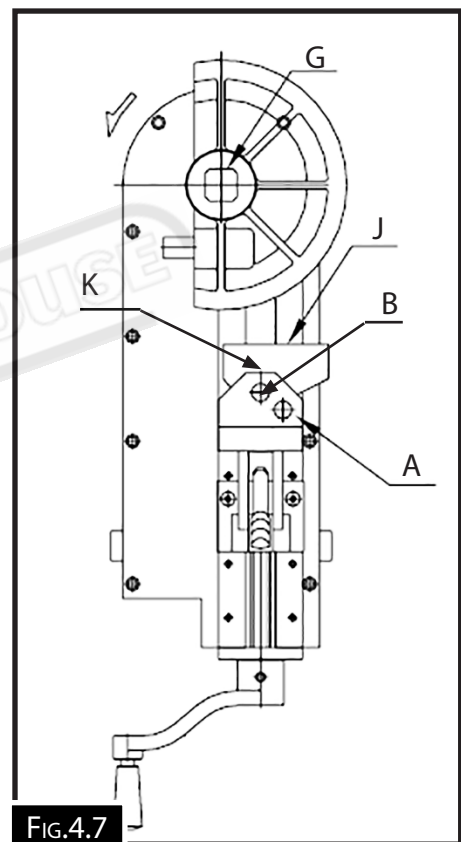

FIG.4.7
4. Place the counter former (J in Fig.4.7) on the Quick Positioning Guide Support "A" using the pin "B", which needs to be secured with the grub screw "K" which is found in the Quick Positioning Guide Support in front of the pin "B".